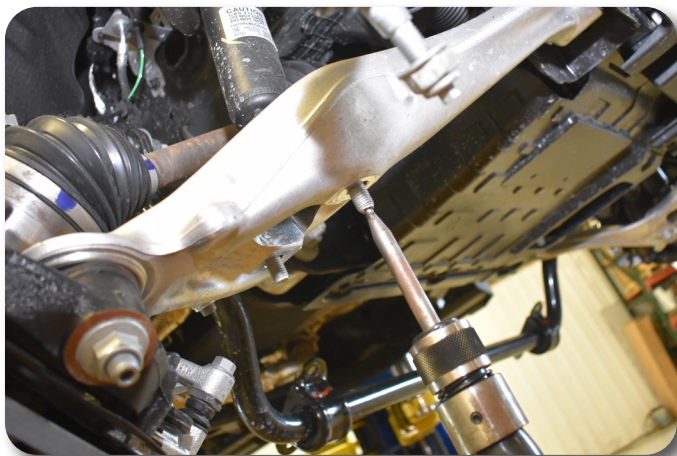

Figure 8
11. Support the lower control arm with an appropriate jack. Remove the lower strut mount nuts at the lower control arm. **OPTIONAL:** This can be done to make the strut easier to be removed. Use an air hammer to dislodge and remove the strut studs in the lower strut mounts **Figure 8**.